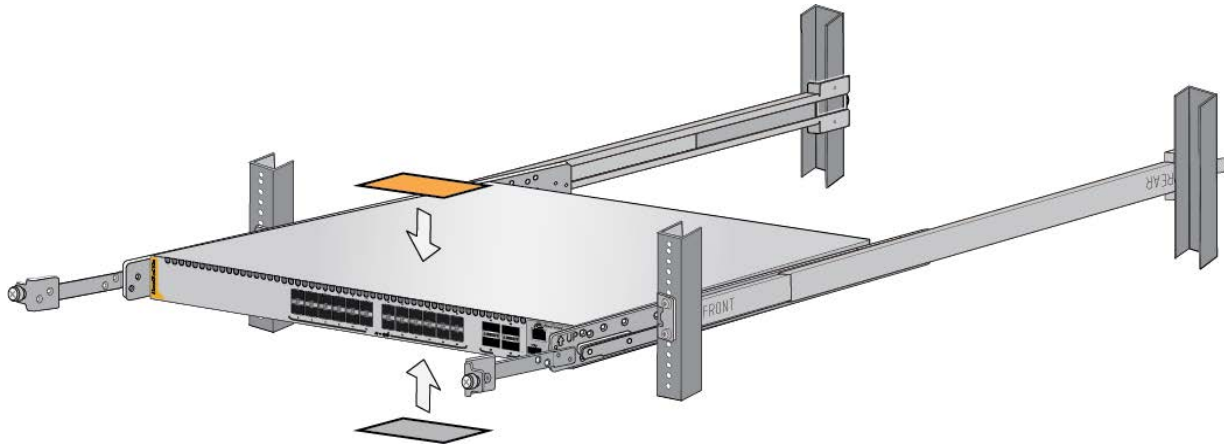

Figure 59. Affixing the Warning Labels
2. Affix the provided warning labels to the top and bottom of the switch, in locations immediately visible when removing the device from the rack. Refer to Figure 59 on page 160.